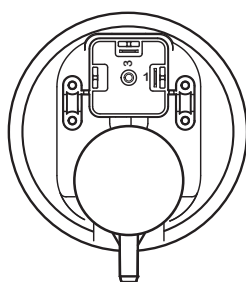

Fig. 49b
4. Reconnect the wires to terminals 1 & 3 (Fig. 49b).